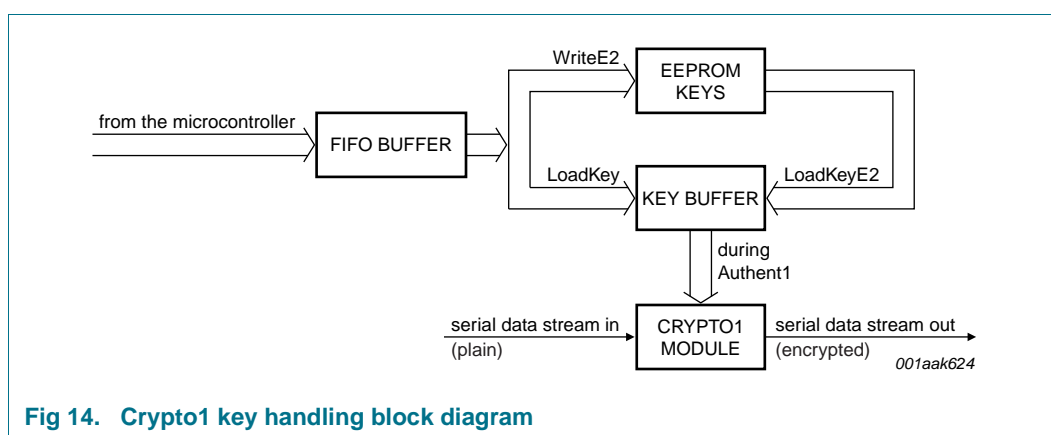

Fig 14. Crypto1 key handling block diagram
- the microprocessor's FIFO buffer using the LoadKey command (see Section 11.6.2 on page 86). This is shown in Figure 14.